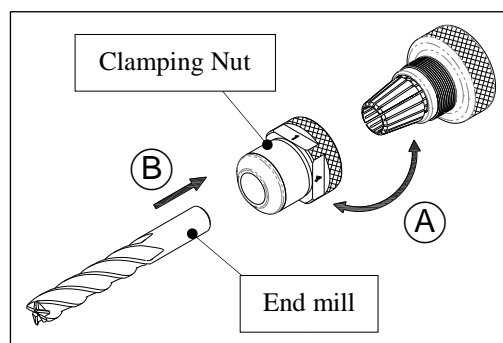
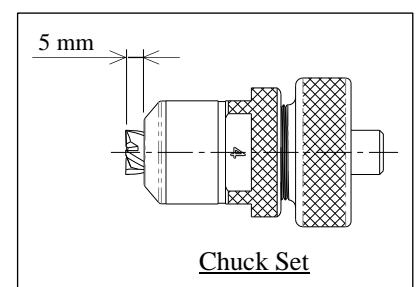

Fig. 11-2
Fig. 11-3
3. Connect collet and clamping nut with collet holder, then insert the End mill shank into the clamp nut until the end mill is protruded around 5 mm out of the clamping nut. (Fig. 11-2) (Fig. 11-3)